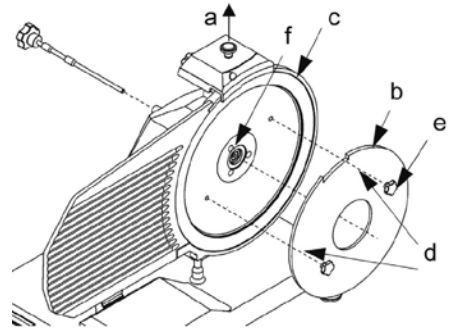

Fig. 7 - Assembling the Plexiglas blade removal tool (b)
To clean the opposite surface of the blade it is necessary to remove the blade [see Fig. 7].
- disassemble the blade guard (see Fig. 7);